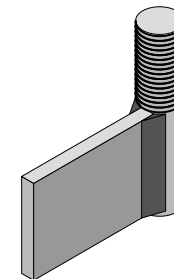
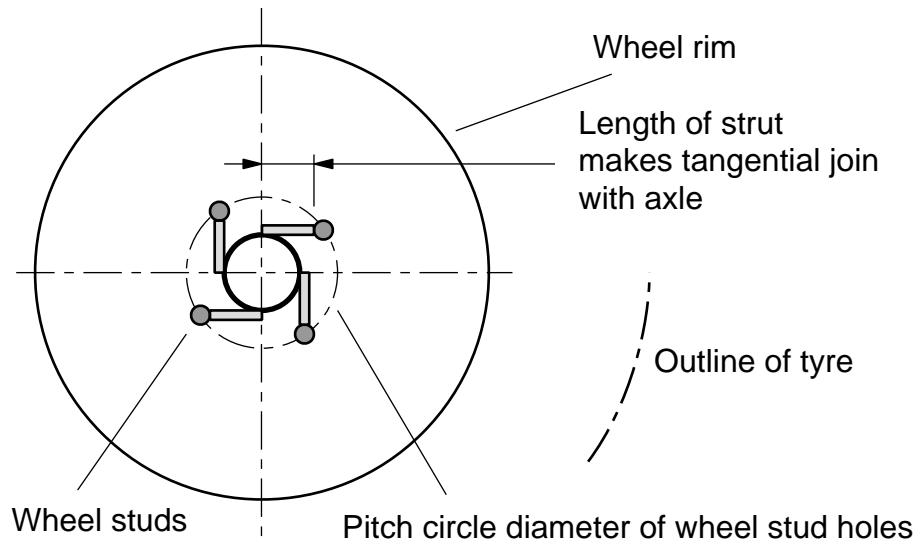

Figure 5: a welded wheel stud and strut fabrication.
Figure 6: length of wheel strut.
- 2) Start by making the wheel stud struts shown in Figure 5. You need to make one of these struts for every stud hole in the wheels you are going to use. Figure 6 shows how to measure the length of the struts. The struts are made from 6x40 flat bar or similar and M12 bolts 50mm or 60mm long. The flat bar should be long enough so that it meets the axle tangentially as shown in Figure 6.
- 3) Once you have made these struts, screw a nut onto each one until it touches the 40x6 metal. Then put the thread through the hole in the rim and screw another nut onto the thread. Tighten this nut lightly with a spanner. Repeat for all the struts so that they all point the same way round the axle, as in Figure 6, and leave a gap for the axle.